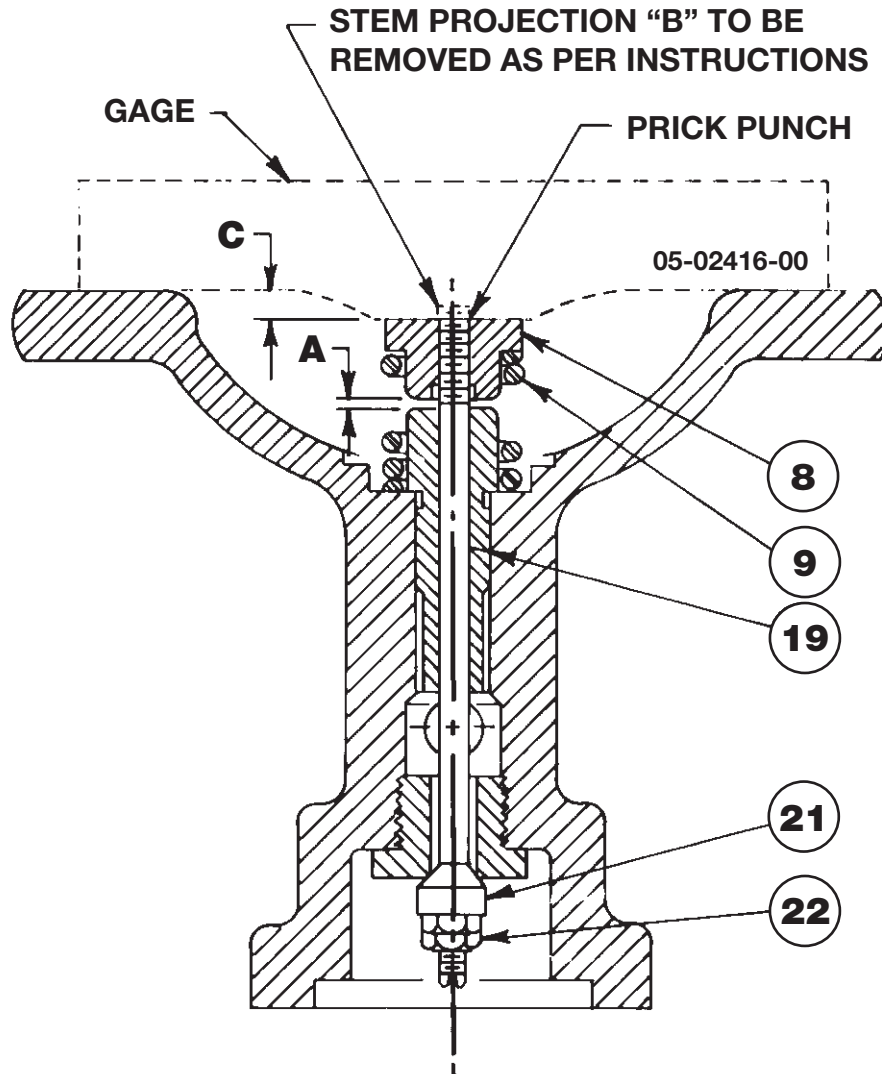

FIGURE 1 - TRAVEL SETTING
- 1 – Clean the body threads of old sealing compound using a wire brush. Apply new sealing compound (Copaltite or equal) to the shoulder of the seat ring (11). Let stand until tacky before installing in pilot body (12).
- 2 – Secure disc (21) to stem (19) with a stem nut (22). Apply lapping compound to the disc and insert this assembly into the pilot body (omit the valve spring (9)).
- 4 – Screw pusher plate (8) onto the stem. Holding the disc firmly against its seat, adjust the pusher plate so that dimension C = 11/64" (See Figure 1). A gage (part number 05-02416-00) is supplied with each repair kit. Being careful not to disturb the pusher plate adjustment, use a prick punch to notch the stem threads above the pusher plate so that the pusher plate can no longer rotate freely. Work carefully to avoid bending the stem. The valve travel is now set.